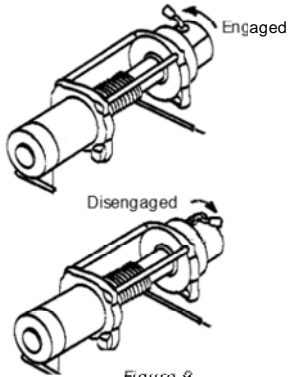

Figure 9
(See Figure 9) Set the freespool clutch knob to the "Disengaged" position. If there is a load on the wire rope the clutch knob may not move easily. **DO NOT FORCE THE CLUTCH KNOB.** Release tension on the clutch by jogging out some of the wire rope. Pull several feet of wire rope off the drum. Return the clutch knob back to "Engaged" position. Activate the winch in Cable Out momentarily to check drum rotation direction. If the drum rotates in the wrong direction, recheck your wiring. Release the clutch and pull out the wire rope and secure to anchor or load. Check that there are at least five (5) turns of wire rope left on the drum. Re-engage the drum by returning the clutch knob to the "Engaged" position.